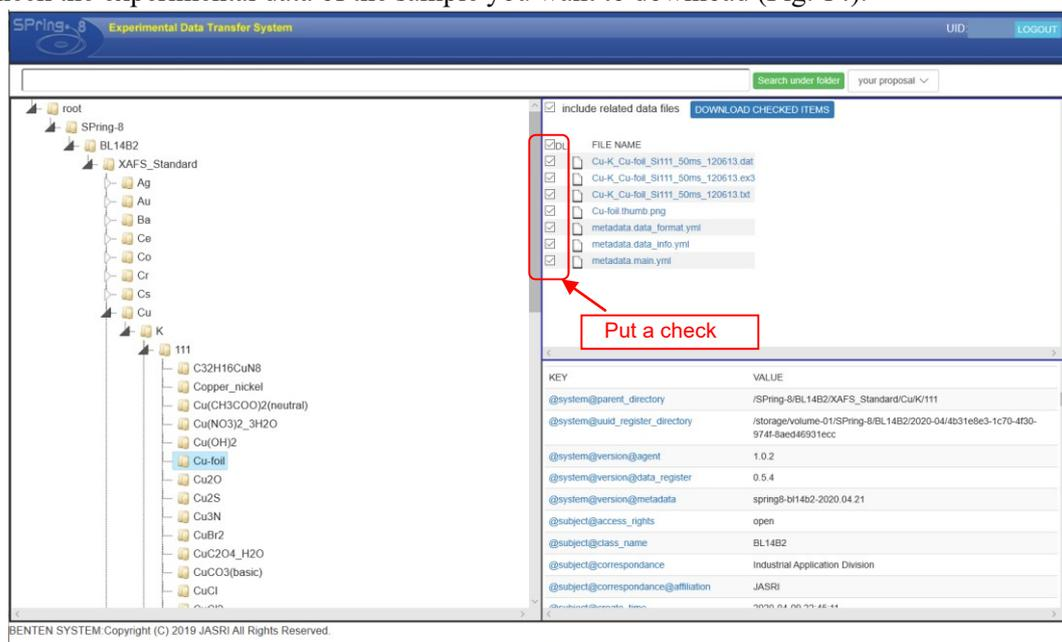

Fig. 14 Experimental data information screen (Cu-foil)
(1) Check the experimental data of the sample you want to download (Fig. 14).